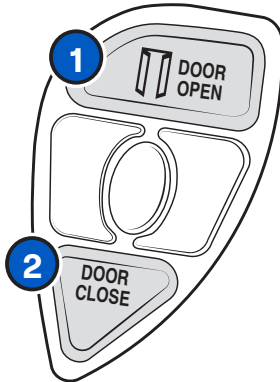

Figure 4 - LIOND front door commands
- Press the “**DOOR OPEN**” pushbutton located on the steering wheel (**Figure 4 no. 1**).
- Press the “**DOOR CLOSE**” pushbutton (**Figure 4 no. 2**).